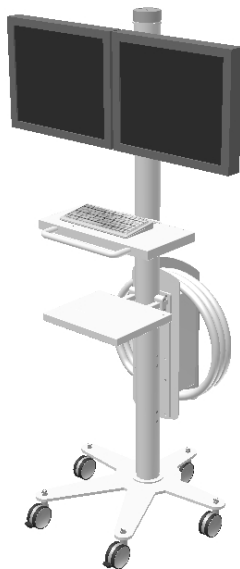

Fig. 3
- "Low Profile Base Trolley" with two LCD monitors 19" for video systems 0,5K² (Fig. 3).